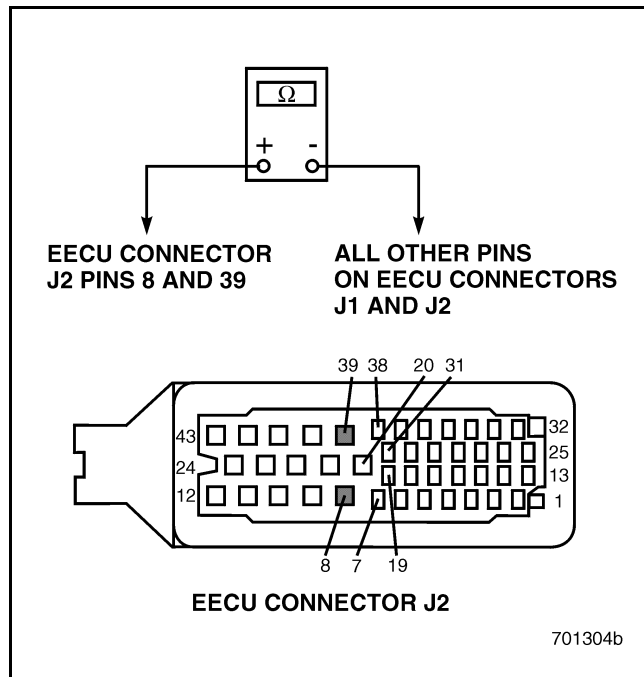

Figure 646
5. Check for continuity between EECU connector J2 pins 8 and 39 versus all other pins on EECU connectors J1 and J2 (see Figure 646).